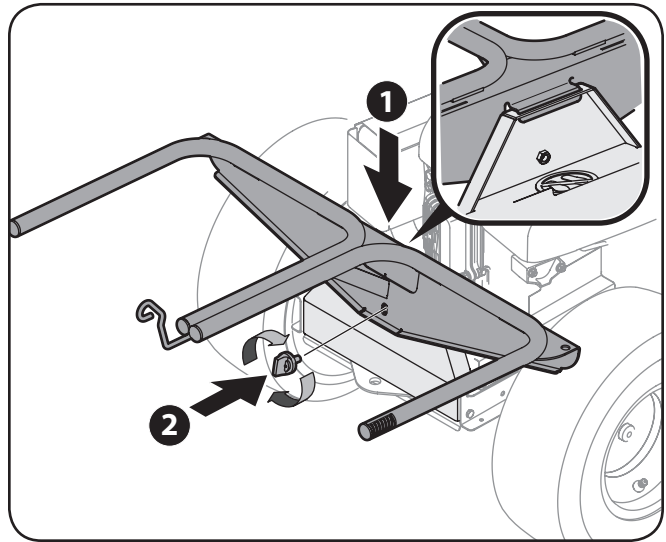

Figure 4-3
3. Install the grass-bag mounting assembly onto the bagger mounting bracket by lowering it down (1) and fitting the assembly into the slot provided in the mounting bracket. See the Inset in Figure 4-3.
4. Secure the grass-bag mounting assembly to the bagger mounting bracket using the attachment knob (720-04061) found in the hardware pack (683-05063). See (2) in Figure 4-3.